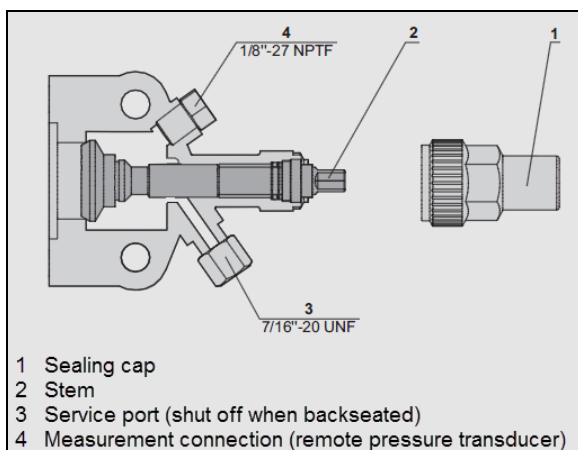

FIGURE 84: COMPRESSOR SHUT-OFF VALVE IN FRONT SEATED POSITION
3. Close (frontseat) the receiver tank outlet shutoff valve by turning the stem clockwise (Figure 50 and Figure 84).
10. Close (frontseat) the suction shutoff valve on the compressor (Figure 84).